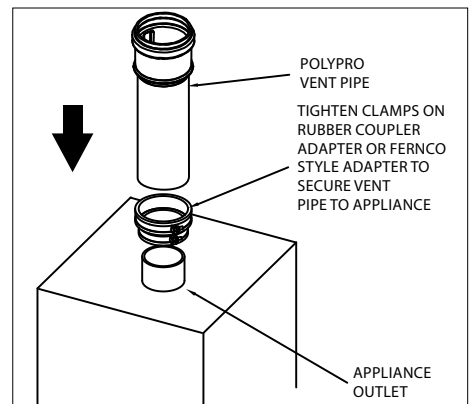

Figure 5
2. If the appliance outlet has a rubber boot or Fernco-style appliance adapter, then the PolyPro vent pipe may attach directly to the appliance **(Fig.5)**.